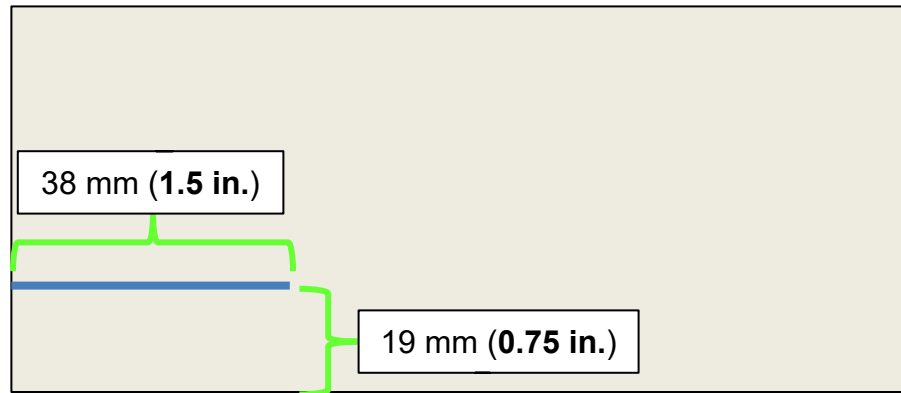

Figure 6
5. On the foil side of one (1) of the three (3) Butyl Patches, measure and mark a line, as shown in Figure 6, and then using scissors cut along the line.